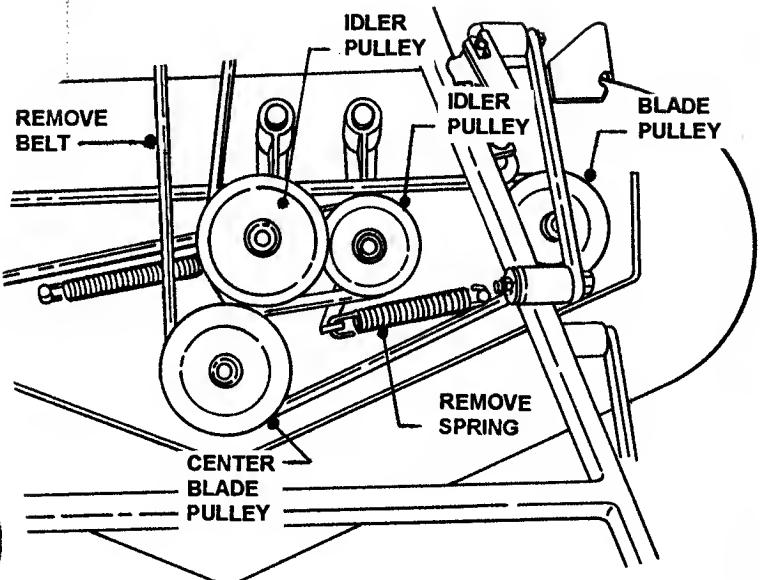

FIGURE 35
1. Route new belt, part number 2-9261 for 48" & 52" decks, onto bottom groove of center pulley and right hand pulley. Refer to Figure 35.
2. Place idler adjusting rod through hole and install spring. Refer to Figure 35.
6. Remove old belt from right hand spindle pulley and center pulley bottom groove. See Figure 35.